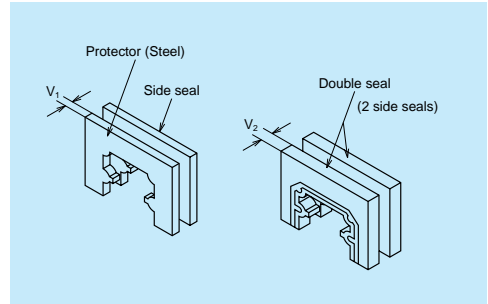

Fig. II-5*3
(1) Double seal
- Double-seal set: Can be installed to a completed standard item later on request. It comprises two end seals, a collar, and a small screw for installation (Fig. II-5*4).
- Double-seal set for LY Series also has a spacer which is installed between end seals (Fig. II-5*5).